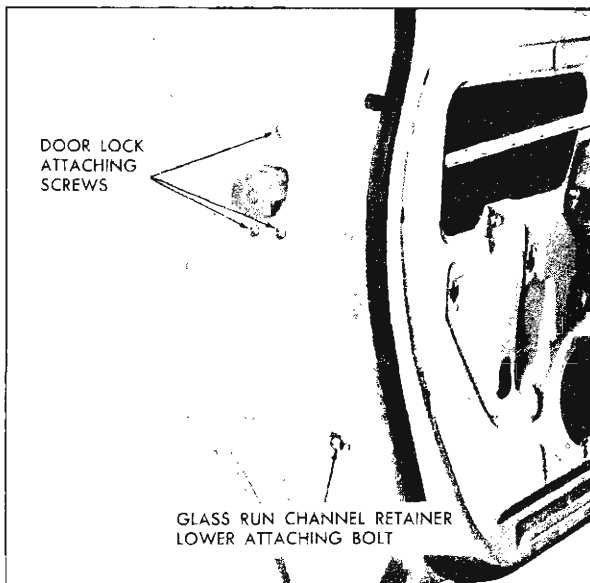

Fig. 12-31 Door Lock Attachment
2. Remove rear door window glass run channel rear retainer assembly lower attaching bolt from lock pillar facing of door (Fig. 12-31).
4. At lock pillar facing, remove door lock attaching screws and remove lock assembly through access hole (Fig. 12-31).